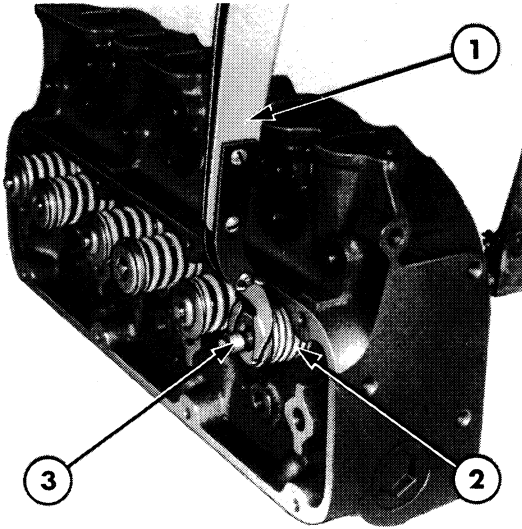

Figure 11
2. Position the valve spring compressor over the valve and spring, and compress the spring, Figure 11.